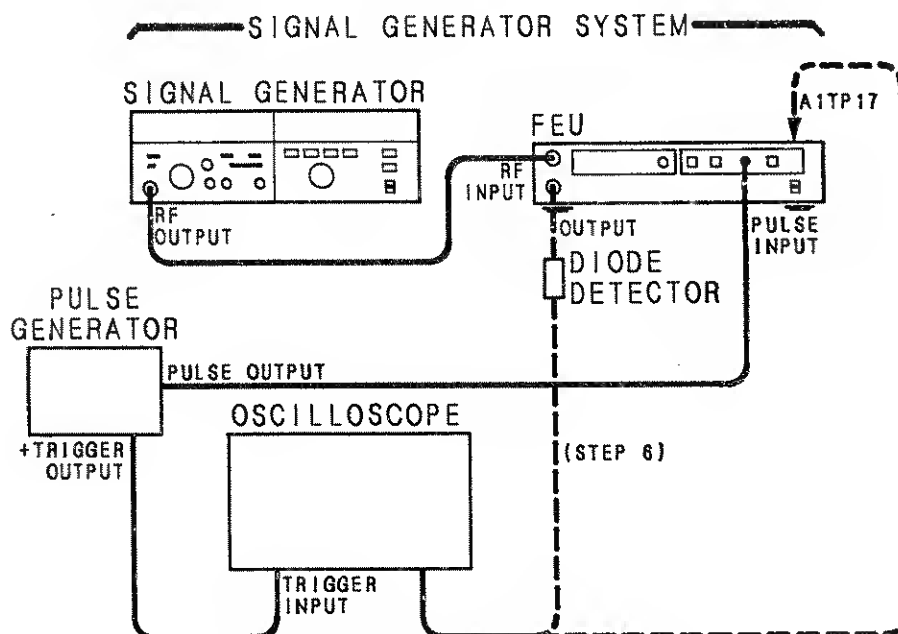

Figure 5-4. Rise and Fall Time Adjustments Setup
1. Connect equipment as shown in Figure 5-4 leaving the Signal Generator's output disconnected.